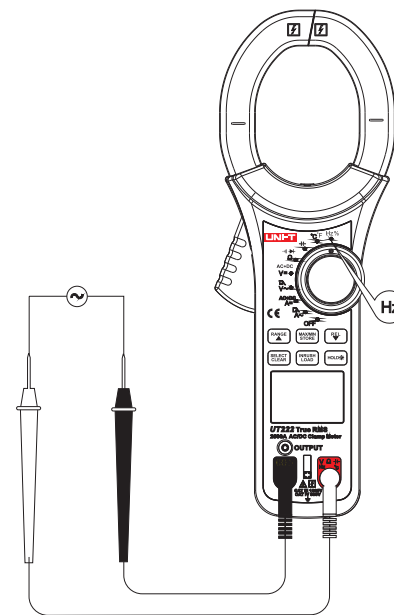

Figure 10
7. Frequency/duty ratio measurement (See Figure 10)
- Current measurement must be operated within $0^{\circ}\text{C} \sim 40^{\circ}\text{C}$, if positive reading is achieved after measuring DC current, the current direction will be from up to down (See Figure 10: the upward is panel and base cap is downward). Do not loosen trigger abruptly, since Hall component is sensitive in some extent to magnet, heat and mechanical stress, but also to the impact, which may cause short-time reading variation.
- Current measurement must be operated within 0°C ~ 40°C, if positive reading is achieved after measuring DC current, the current direction will be from up to down (See Figure 10: the upward is panel and base cap is downward). Do not loosen trigger abruptly, since Hall component is sensitive in some extent to magnet, heat and mechanical stress, but also to the impact, which may cause short-time reading variation.